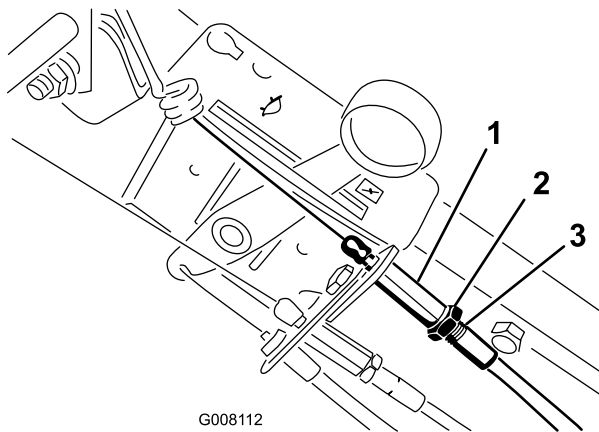

Figure 26
4. Reset the cable adjuster on the handle so that 1/4 inch (6 mm) of the threads show, then tighten the nut (Figure 26).
to adjust the cable adjuster to achieve this value (Figure 26).